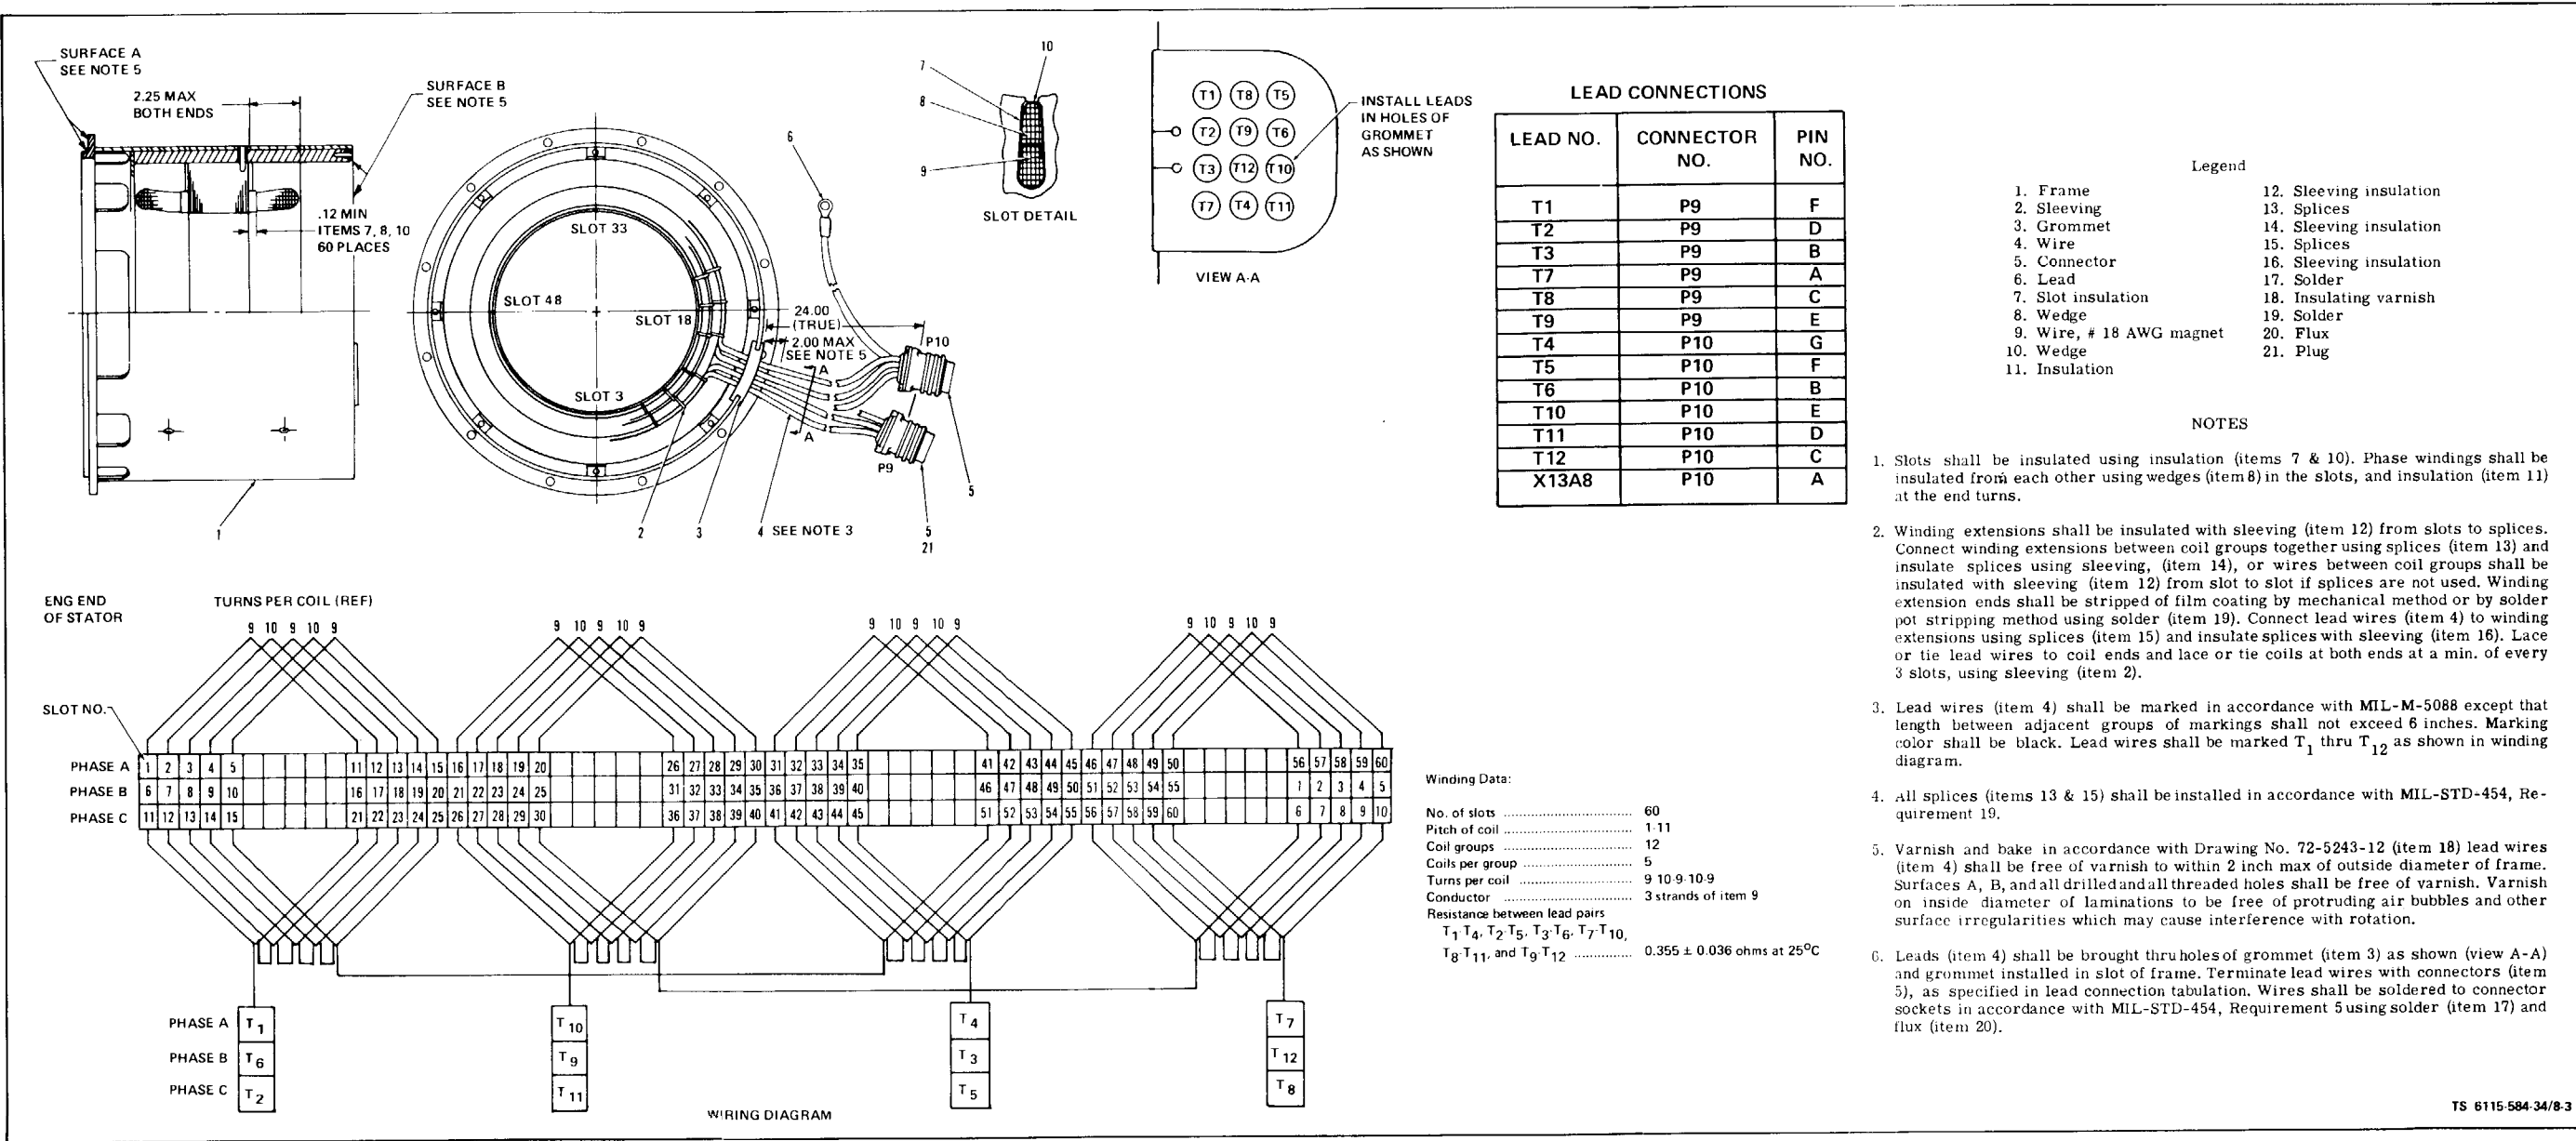

Figure 8-3. Generator Frame Assembly Winding Data
(1) High Potential Test. Test generator stator as given in paragraph 8-2e of this manual. Replace stator having faulty insulation.
(2) Winding Resistance Test. Perform winding resistance test using a Kelvin bridge. Follow the manufacturer's instructions given on the bridge. Resistance readings should be made on the pins of P9 and P10 (see figure 8-3). Resistance between lead pairs T_1 - T_4 , T_2 - T_5 , T_3 - T_6 , T_7 - T_{10} , T_8 - T_{11} and T_9 - T_{12} should be 0.355 \pm 0.036 ohms at 77°F (25°C). Refer to the table in figure 8-3 for location of the terminals. Also check resistance between each pin A through F of P9 and P10 and the stator frame. Low resistance indicates a shorted stator.
(1) Generator frame assembly (see figure 8-3).